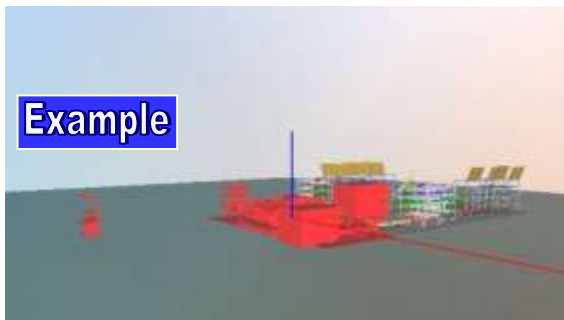

**Figure 95: Dialog for Hidden Objects**
- 3) After clicking **Show in graphic**, a dialog opens. There all hidden objects are displayed. *Please refer to the Figure 95.*
- 4) Select the object that you want to show in the dialog. *Please refer to the: Figure 95.*